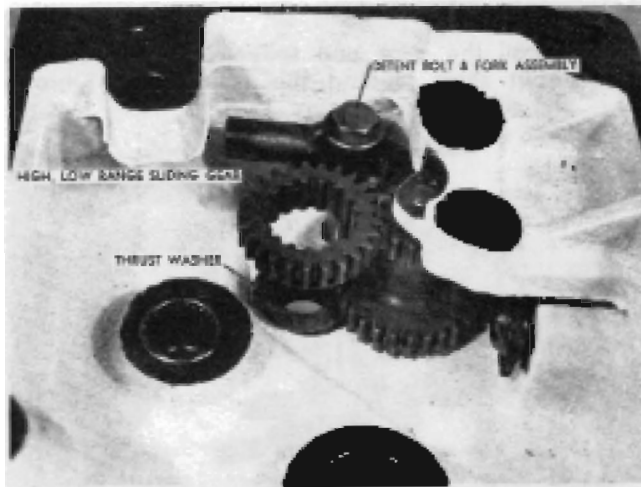

FIGURE 6
21. Remove the sliding gear from the high-low range shift fork assembly. Figure 6.
23. Remove the high-low range detent bolt and shift fork assembly. Figure 6.